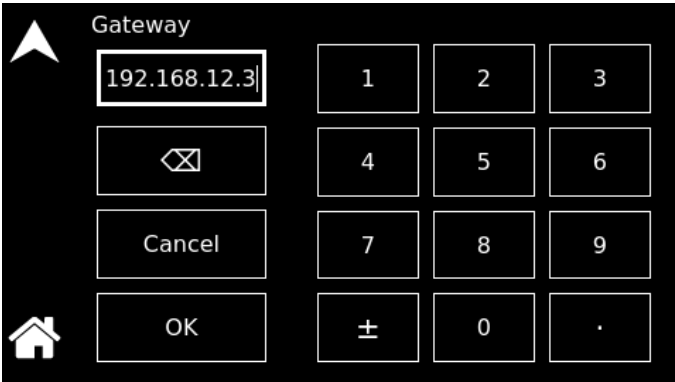

Figure 8-169. LAN Screen - Gateway Address
- **Gateway Address:** Sets the gateway address when DHCP is turned off in the LAN CONFIG sub-menu and when AUTO IP is selected, set the gateway address to all zeros so that the gateway address would be requested from the network; when DHCP is selected, the gateway address is assigned by the network DHCP server. Refer to Figure 8-169.